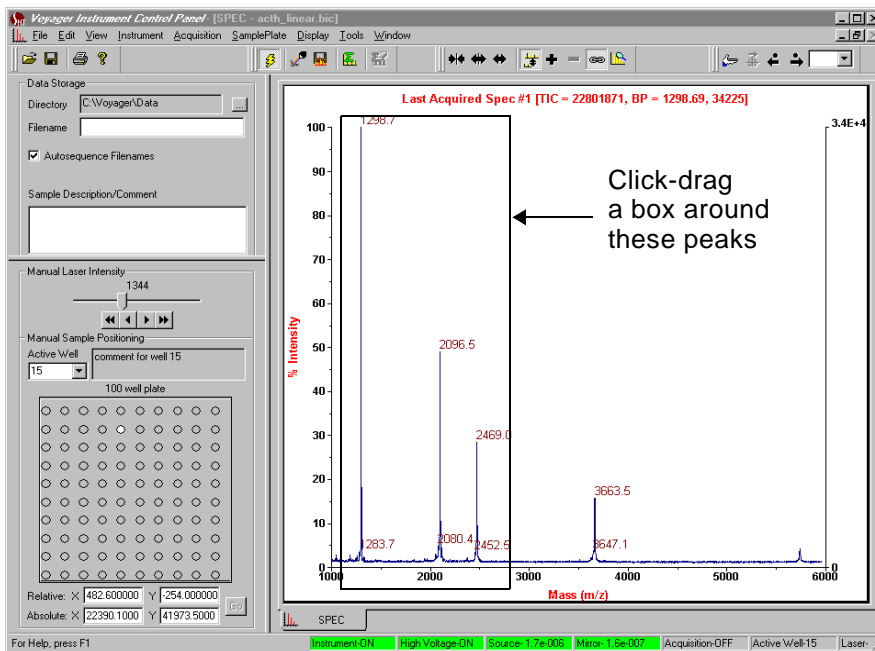

Figure 4-9 Zooming on Peaks
2. Hold down the left mouse button and click-drag a box around the area to zoom. Make sure to click-drag within the Spectrum window (Figure 4-9).